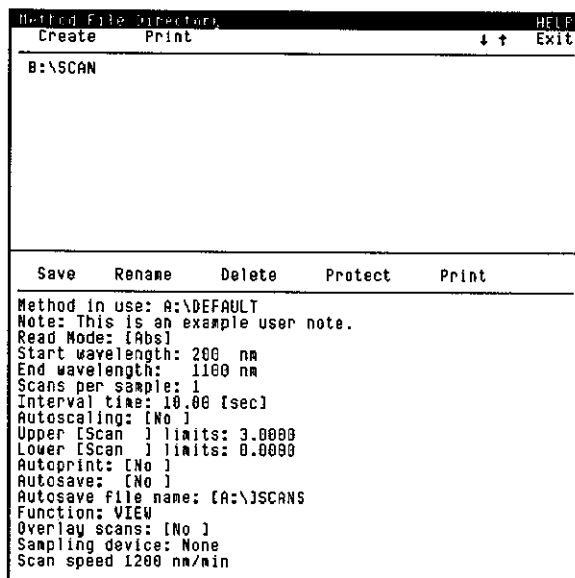

Figure 6-2. Method Window
1. Click on <Method> to display the Method window, Figure 6-2. The Method window is used to setup analysis parameters, recall stored methods and create new methods. General information on method windows is provided in section 3.8.